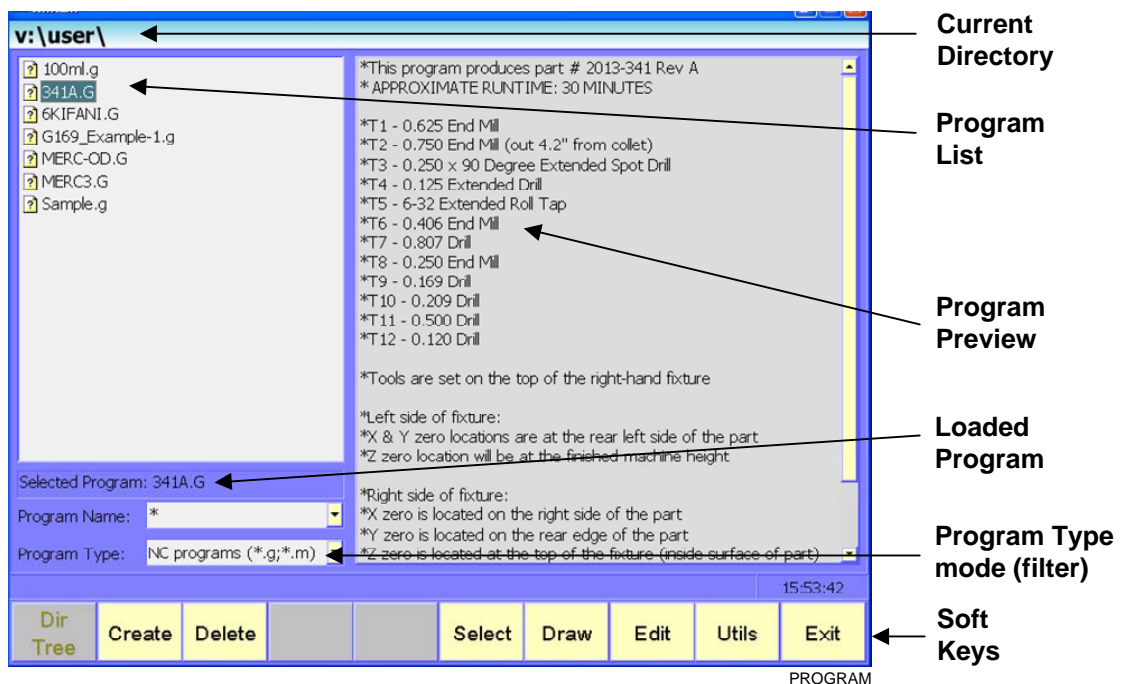

Figure 10-1, Program Screen
The Program Manager's **USER** listing lists the programs stored in the CNC. Refer to **Figure 10-1**. All CNC programs have **.G** extensions after their names. Change the Program Type mode to view programs with other formats.
2. In the Manual screen, press **Program (F2)**. The Program screen activates (refer to **Figure 10-1, Program Screen**).